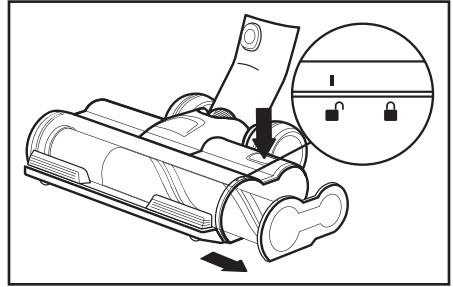

Fig. 3
2. Press the brushroll Release Button and pull out the brushroll (Fig. 3).